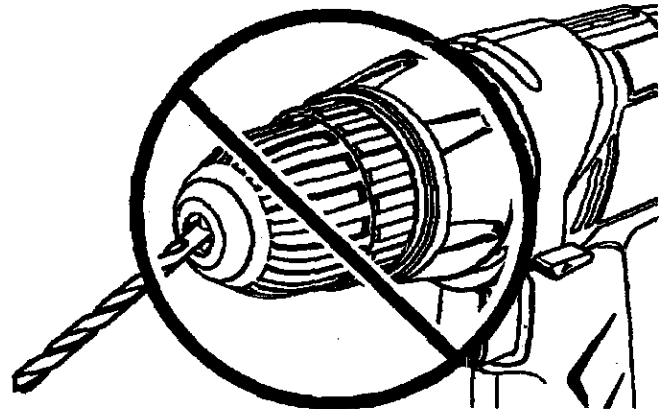

Fig. 10
- ▲ **WARNING:** Make sure to insert the drill bit straight into the chuck jaws. Do not insert the drill bit into the chuck jaws at an angle then tighten, as shown in figure 10. This could cause the drill bit to be thrown from the drill, resulting in possible serious personal injury or damage to the chuck.